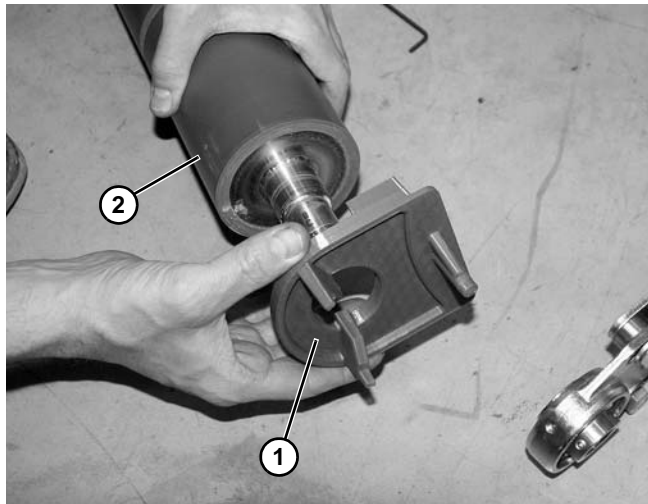

Figure 136
- Slide the side plate (**Figure 136, item 1**) off the idler roller (**Figure 136, item 2**).